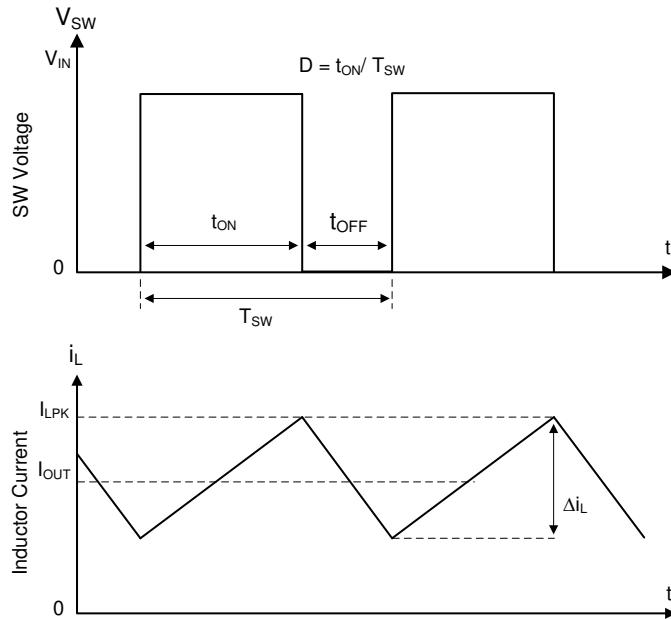

Figure 9-1. SW Node and Inductor Current Waveforms in Continuous Conduction Mode (CCM)
The following operation description of the TPS6293x refers to the functional block diagram and to the waveforms in Figure 9-1. The TPS6293x is a synchronous buck converter with integrated high-side (HS) and low-side (LS) MOSFETs (synchronous rectifier). The TPS6293x supplies a regulated output voltage by turning on the HS and LS NMOS switches with controlled duty cycle. During high-side switch on time, the SW pin voltage swings up to approximately V_{IN} , and the inductor current, i_L , increases with linear slope $(V_{IN} - V_{OUT}) / L$. When the HS switch is turned off by the control logic, the LS switch is turned on after an anti-shoot-through dead time. Inductor current discharges through the low-side switch with a slope of $-V_{OUT} / L$. The control parameter of a buck converter is defined as Duty Cycle $D = t_{ON} / T_{SW}$, where t_{ON} is the high-side switch on time and T_{SW} is the switching period. The converter control loop maintains a constant output voltage by adjusting the duty cycle D. In an ideal buck converter where losses are ignored, D is proportional to the output voltage and inversely proportional to the input voltage: $D = V_{OUT} / V_{IN}$.